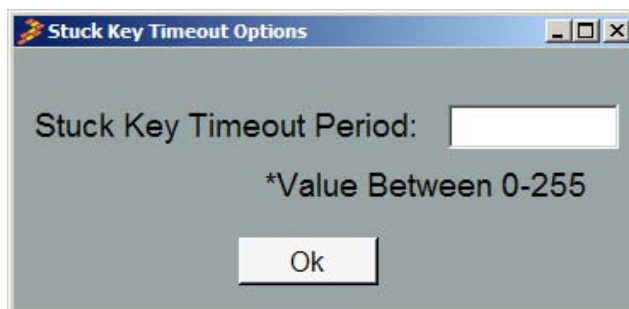

Figure 25. Stuck Key Timeout Options
NOTE: IN ORDER TO GET OUT OF LOW POWER MODE, THE USER MUST SELECT THE “TOGGLE ATTENTION AND READ ALL” BUTTON (Figure 25).
H. Stuck Key Timeout Register – The Stuck Key Timeout Register is used to determine the electrode scan period of the system (Figure 25).